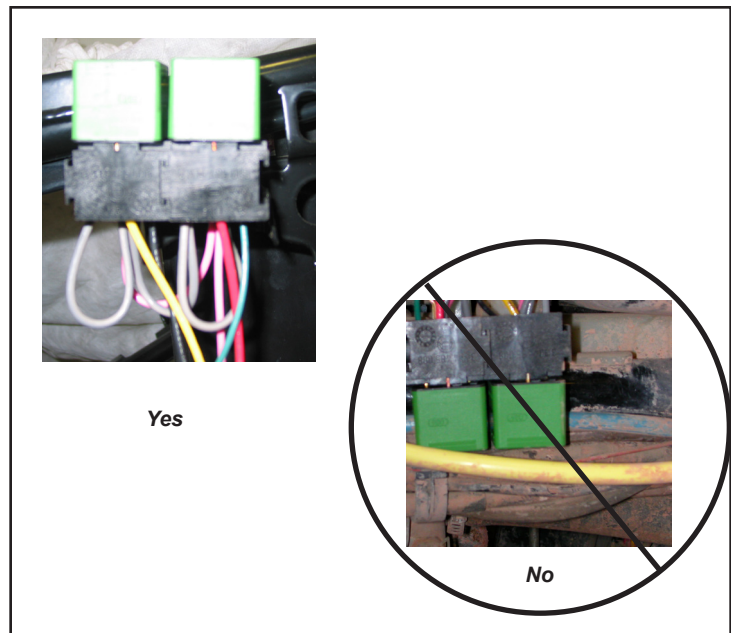

Figure 4 Relay Orientation
2. Route the wires along the vehicle frame and position the relays in an area that they can be secured in upright position. Secure relays to frame with cable ties, as shown in Figure 4. Relay location must be as clean and dry as possible.